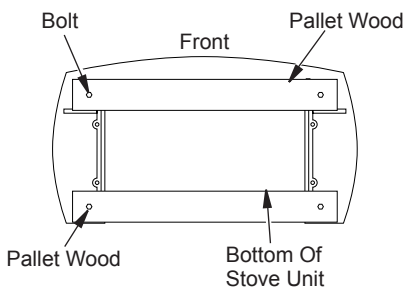

Figure 8 - Removing Pallet Wood From The Bottom of The Stove
8. Remove remaining pallet wood attached to bottom of stove body (see Figure 8, page 7). Use an adjustable wrench to remove bolts.